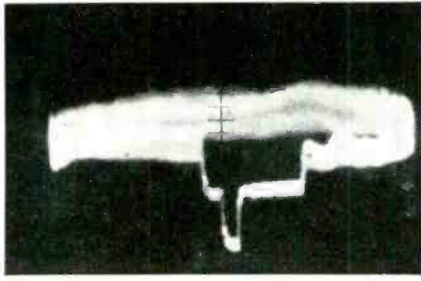

Fig. 1 — Vertical sync pulse.
A. This situation is illustrated in Fig. 1. It is caused by the limited frequency response of the demodulator probe, which filters out the higher-frequency components of the video